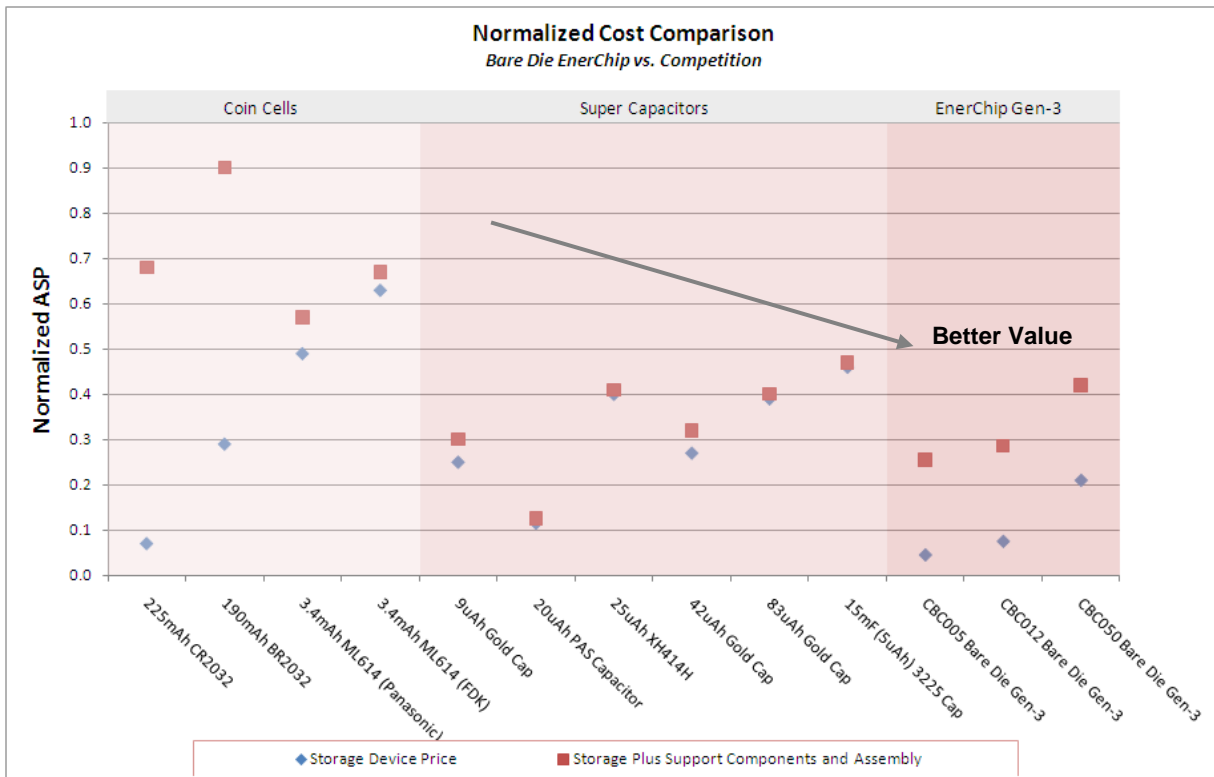

Figure 5: Comparing Normalized Average Selling Price
- Compare the normalized cost of the energy storage devices. Figure 5 shows the comparison of a variety of commonly used Coin Cells, Supercapacitors and EnerChips that are used in power back-up applications. Each of the devices has the energy storage capacity to perform the energy transaction required by the back-up application. **Note that in almost all comparisons, EnerChips have a cost advantage compared to Supercapacitors.**